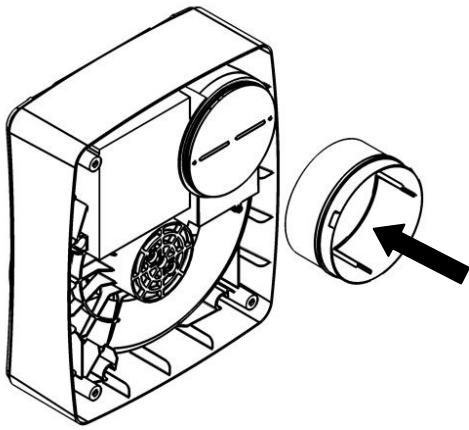

Fig. 3.
5. Attach the ducting to the Spigot and locate into the hole in the panel ensuring the Skirt is located correctly into the Base Housing. Secure into position using appropriate fixtures (Fig 3).
8. Using the Base Housing as a template, mark the fixing hole centres on the wall, carefully sliding the spigot into the Wall Liner. Secure the Base Housing into position using the screws and fixings provided ensuring the Skirt is located correctly into the Base Housing (Fig 3)